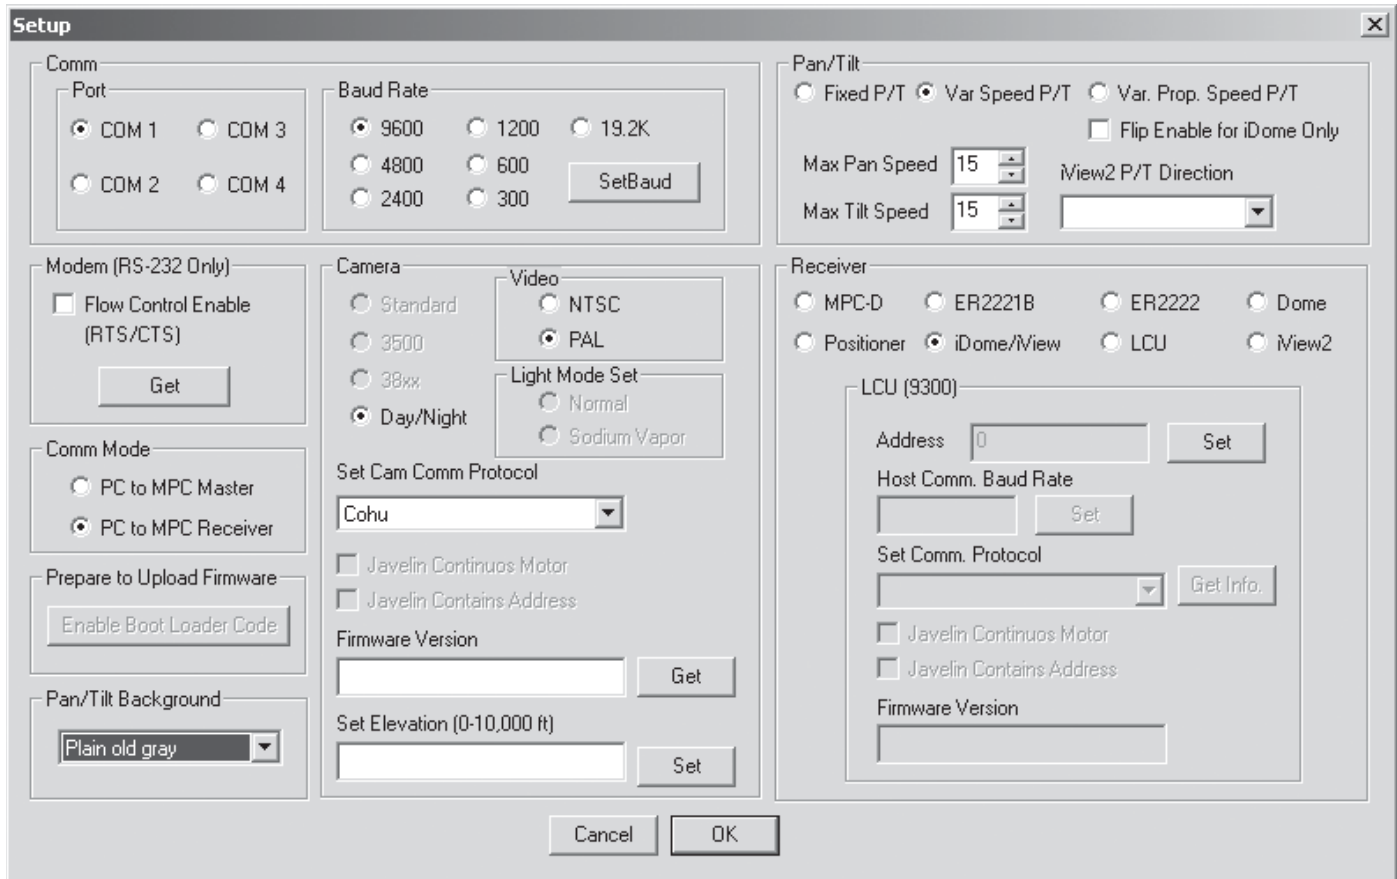

Figure 19. Win MPC Communications Functions Screen
1. Under the FUNCTION menu area of the window, click on SETUP. The Comm setup window menu should appear. Figure 19 shows the communications setup window of Win MPC. Table 5 summarized the required selections.